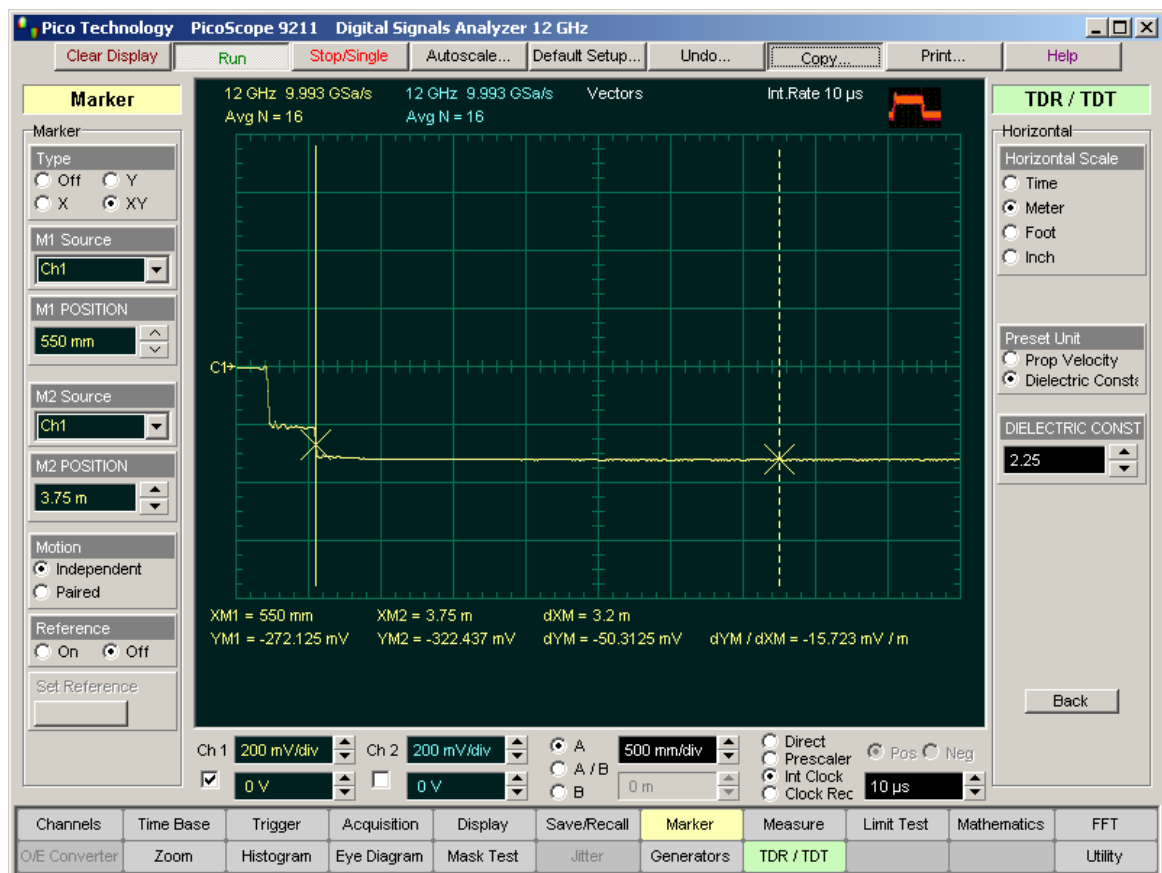

Figure 1
12. Place marker M1 on the reflection from the open-circuit Reference Plane. See Figure 1.